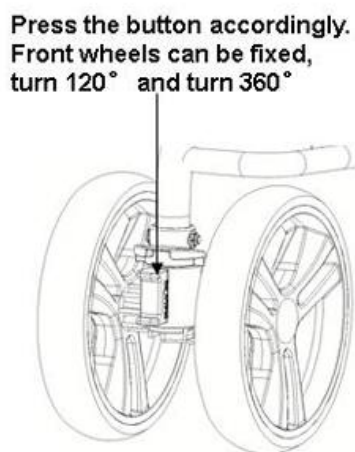

Figure 5
2. When the directional lock button is pushed downward to disengage from the fixed tube, distinct tactile feedback is felt during the downward motion. The front wheels can then rotate 60° to the left and 60° to the right, as shown in Figures 5 and 6.
3. When the directional lock button is pushed even further down and second tactile feedback is felt, the front wheels are unlocked and can rotate 360°, as illustrated in Figure 5.